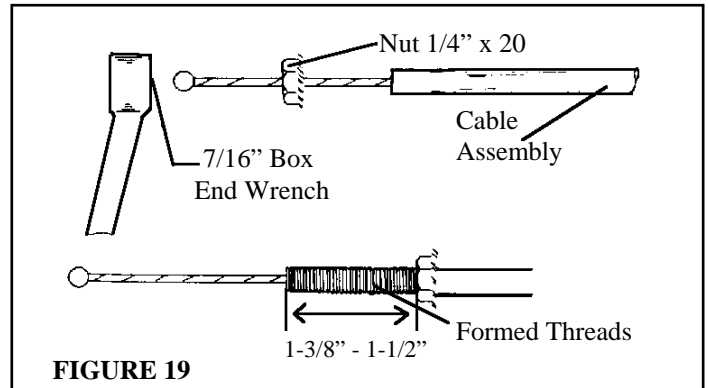

FIGURE 19
1. Before using the **Snap-In Adapter**, remove the **Adjustable Sleeve** from the **Cable Assembly**. To use the **Snap-In Adapter**, it will be necessary to form threads on the end of the **Cable Assembly**. This is easily accomplished by placing the **1/4" - 20 Nut** on the end of the **Cable Assembly** with your fingers. Then use a **7/16" box end wrench** and turn clockwise until the desired amount of threads have been formed. (**Figure 19**)
3. Before using the 1/4"-20 Nut, remove the **Adjustable Sleeve** from the **Cable Assembly**. Then use the 1/4"-20 Nut to form threads on the end of the **Cable Assembly**. This is easily accomplished by first placing the 1/4" - 20 Nut on the end of the **Cable Assembly** with your fingers and then use a 7/16" box end wrench and turn clockwise until the desired amount of threads have been formed. (**Figure 19, page 14**)
1. Before using the **Threaded Tube Clamp** remove the **Adjustable Sleeve** from the **Cable Assembly**. To use **Threaded Tube Clamp**, it will be necessary to form threads on the end of the **Cable Assembly**. This is easily accomplished by first placing the **1/4" - 20 Nut** on the end of the **Cable Assembly** with your fingers and then use a 7/16" box end wrench and turn clockwise until the desired amount of threads have been formed. (Figure 19, page 14)